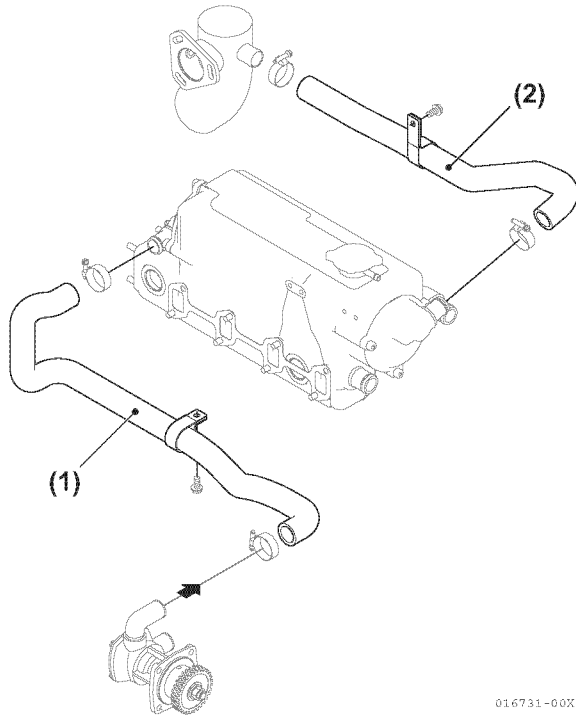

Figure 7-22
3. Disconnect seawater pipes (**Figure 7-22, (1)**) and (**Figure 7-22, (2)**) from heat exchanger.